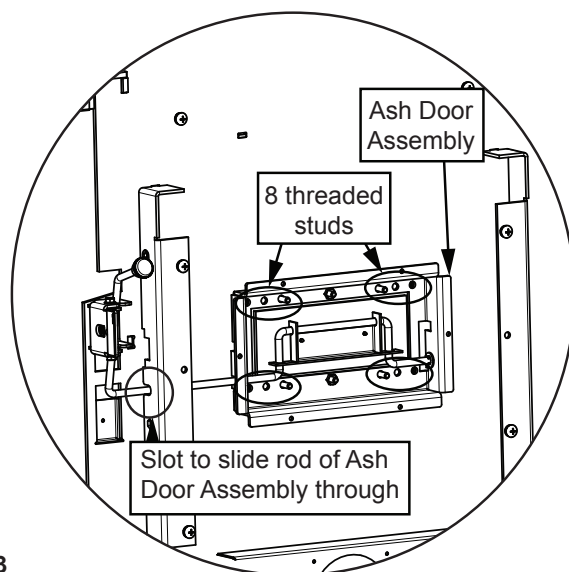

Figure 16.3
7. Install ash door assembly by sliding the rod at an angle into the slot on the left side (**Figure 16.3**).
8. Slide the ash door over the 8 screws protruding from the bottom of the appliance. Secure with nuts and washers using 7/16 socket wrench (**Figure 16.3**).
7. Install ash door assembly by sliding the rod at an angle into the slot on the left side (**Figure 16.3 on page 16**).
8. Slide the ash door over the 8 screws protruding from the bottom of the appliance. Secure with nuts and washers using 7/16 socket wrench (**Figure 16.3 on page 16**).